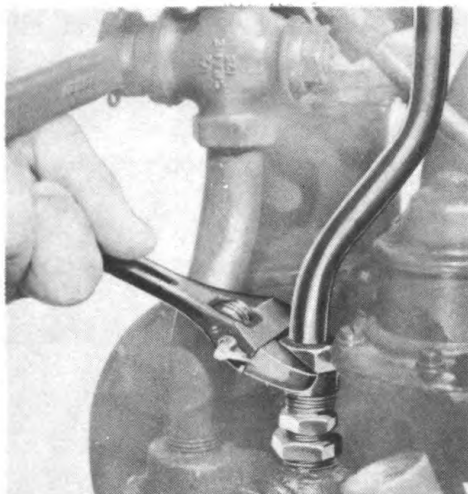

Fig 60. Breaking inlet line at fog oil-water pump.
- c. Break inlet line at fog oil-water pump as shown in figure 60. This line can now be moved aside to permit freeing of gasoline pump.